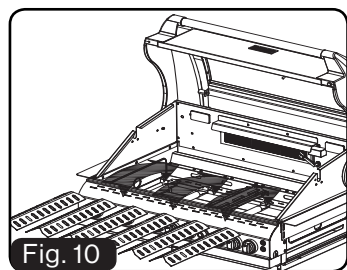

Fig. 10
10. Put flame tamers into the BBQ body as shown. (Fig.10)